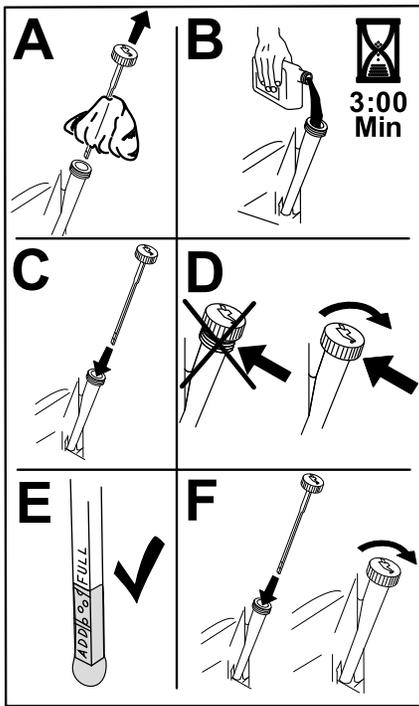

Figure 32
5. Slowly pour approximately 80% of the specified oil into the filler tube and slowly add the additional oil to bring it to the Full mark (Figure 32).
3. Fill the crankcase with the proper type of new oil (Figure 32).